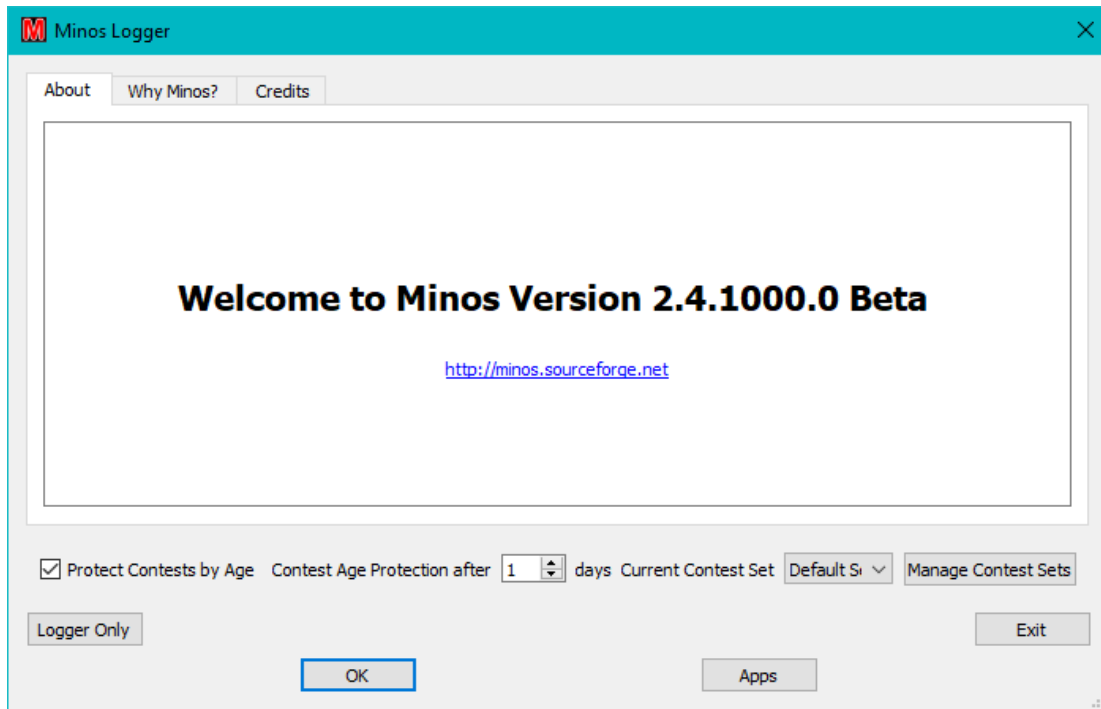

Figure 11 – Welcome screen
- Automatically, after the number of days specified in the “**Contest Age Protection after**” field on the Welcome screen (see Figure 11) have passed since the end of the contest. If the contest has been age protected then both the “**Protected**” and “**Age Protected**” boxes (Figure 16) are set.